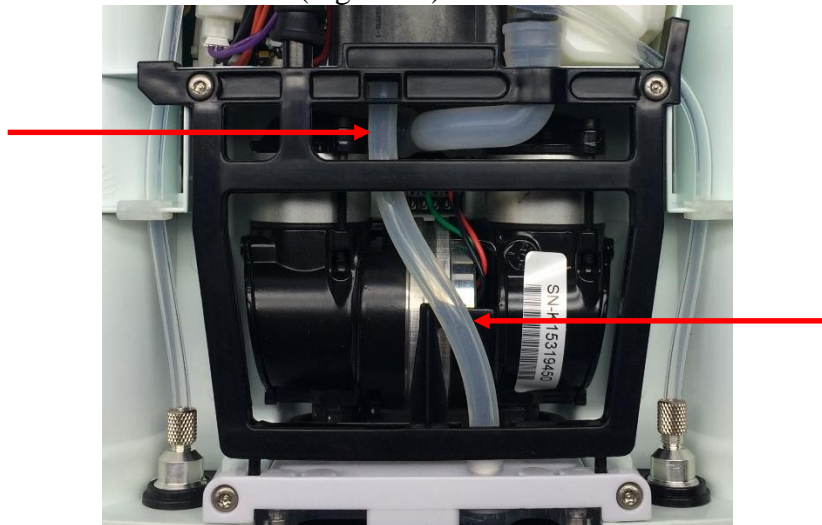

Figure 15: Tube Bracket and Muffler Assembly with routed Intake Tube
8. Slide the Tube Bracket and Muffler Assembly pegs back into the slots in the chassis. Align the bracket back into place and reinstall the two screws to 4 in-lbs. (Figure 5). Ensure that all tubing is properly routed before screwing down. Route the Intake Tube back into the Tube Bracket and Muffler (Figure 15).